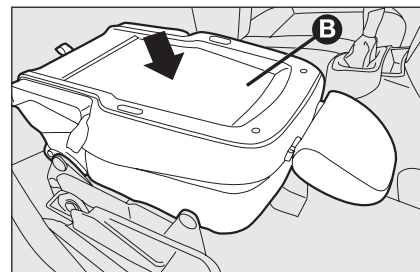

fig. 22
- ☐ then, push the backrest **B-fig. 22** down: the seat is now folded all the way down in the "table" position;